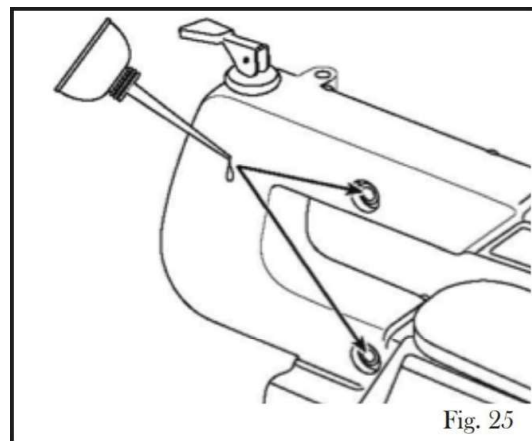

Figure 25
2. Apply a generous amount of SAE 20 oil around the shaft and bearing. See figure 25.